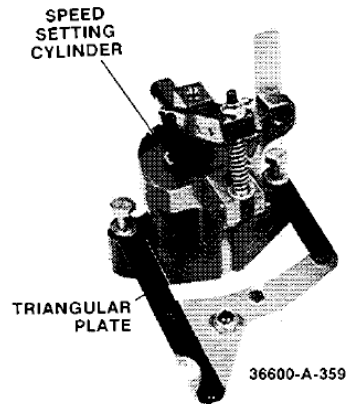

Figure 5-8. Speed Setting Cylinder and Triangular Plate
- c. Lift off speed-setting cylinder and spring (Figure 5-8).